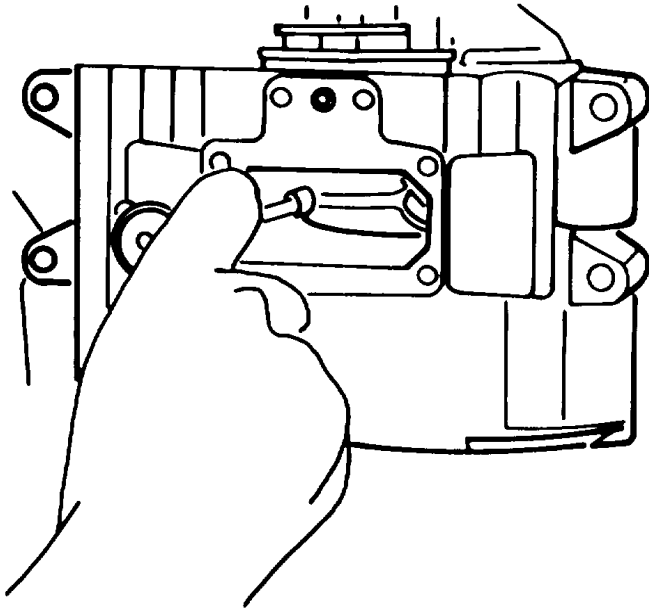

Figure A-20. Rod Hex Nuts
- (1) Using a 13mm socket, remove the two connecting rod hex nuts. Tap on the connecting rod cap with a hammer handle, if necessary, to loosen and remove it. Pull and remove it. Pull out the connecting rod. (Figure A-20.)